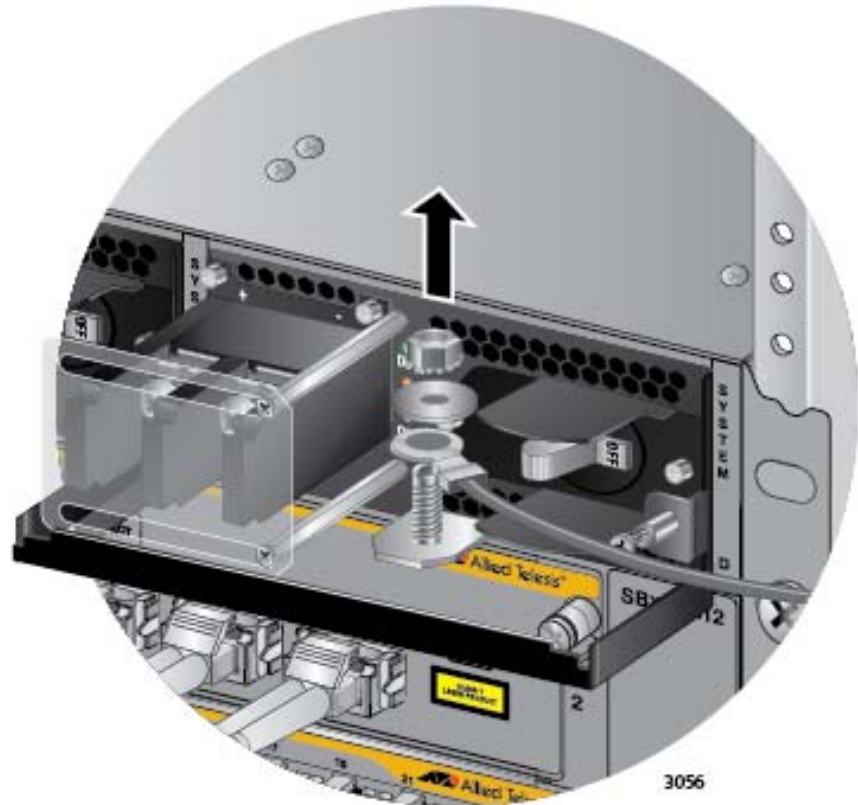

Figure 173. Removing the Grounding Wire
9. Use an 8 mm wrench to remove the grounding wire from the grounding post. Refer to Figure 173 on page 282.